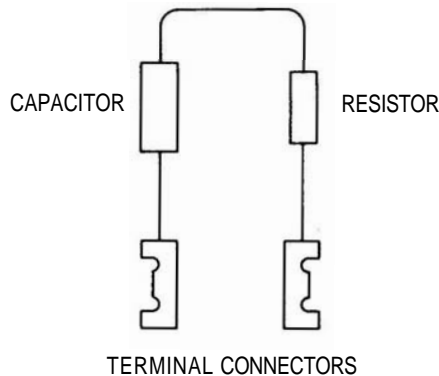

FIGURE 5-6. CRYSTAL SHORT CONFIGURATION
- Crystal Short (3 required) See Figure 5-6